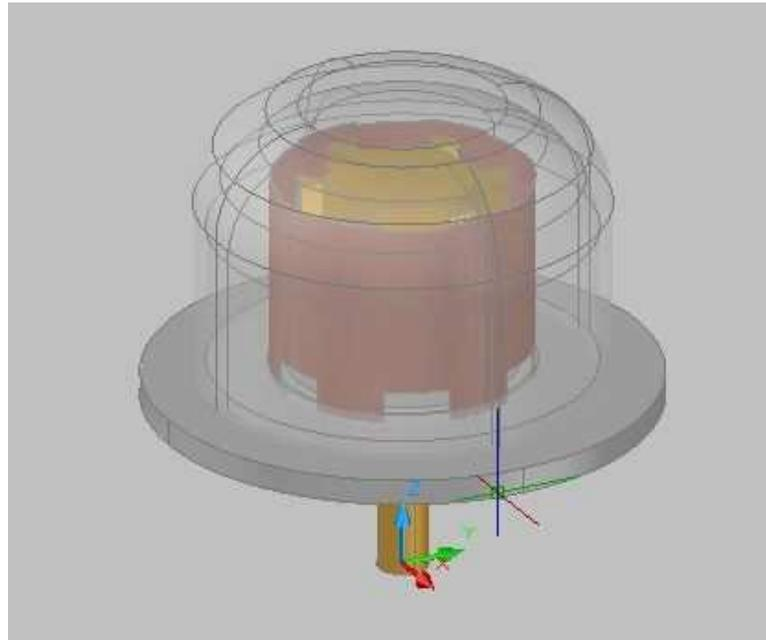

Figure 17.
- 22) Acrylic dome for protection against elements as shown in Figure 17. It protects from weather but keeps the air space contained so that it can be magnetically charged. As the unit begins to spin, the waves of magnetic energy can be felt inches away from the stator. This acrylic dome must be bolted directly to the aluminum base plate.